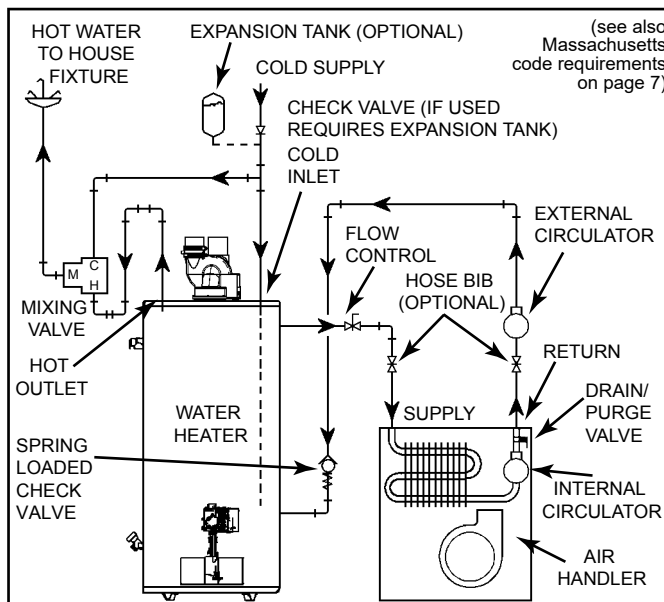
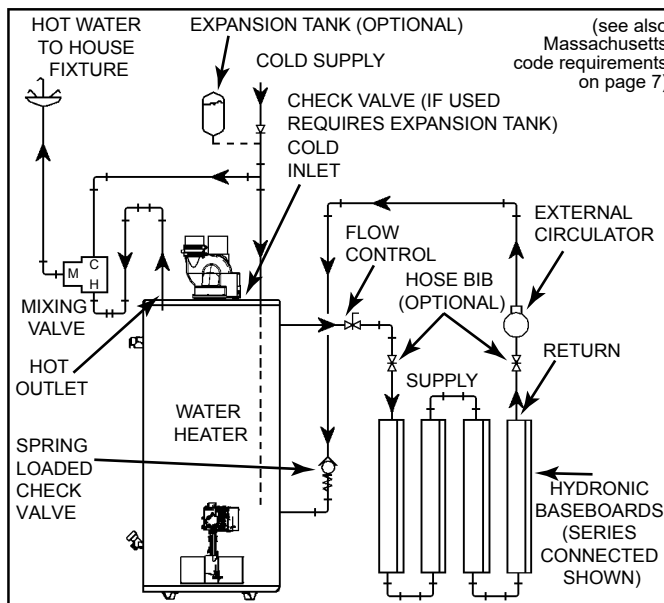

Figure 11.
Figure 12.
8. "Combo" Heating Systems require higher water temperatures than other applications. When the system is used to supply water for Combo Heating applications, a means, such as Thermostatic Mixing Valves (see Figure 6) at each point-of-use, must be installed to temper the water in order to reduce scald hazard potential (see Figure 11 and Figure 12).
- A. A fan coil/air handler (Figure 11).
- B. A hydronic baseboard (finned tube) loop/In floor heating (Figure 12).